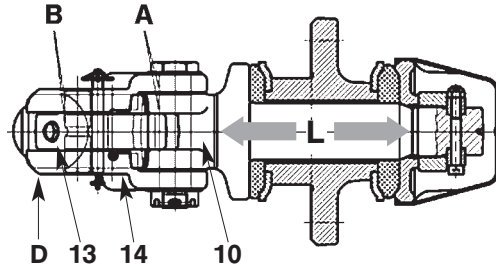

Fig. 10
- Grip coupling head with both hands when uncoupled and move rigorously in longitudinal direction (see fig. 10)